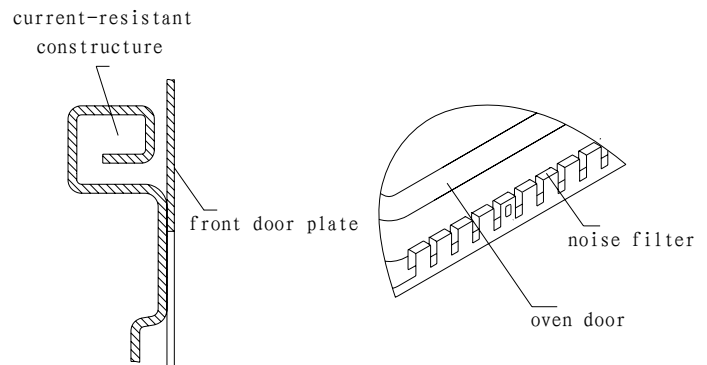

Fig. 2-9
- 2) The widely used seal measurement at present is to assemble a current – resistant construct between the door and the doorframe. FIG.2-9 is the typical construction fig of the door. It was designed according to the theory of “THE TRANSFERING LINE ONE-FOURTH WAVE LENGTH IMPEDANCE CHANGER”. Although there is no connecting point from a mechanical point. It is sealed at the seam from the point of electricity, so it is called “CURRENT-RESISTANT”. Recently, with the installation of noise filter in the current resistant trough, the effect to restrain the microwave leakage (include high subharmonic) have been much improved.